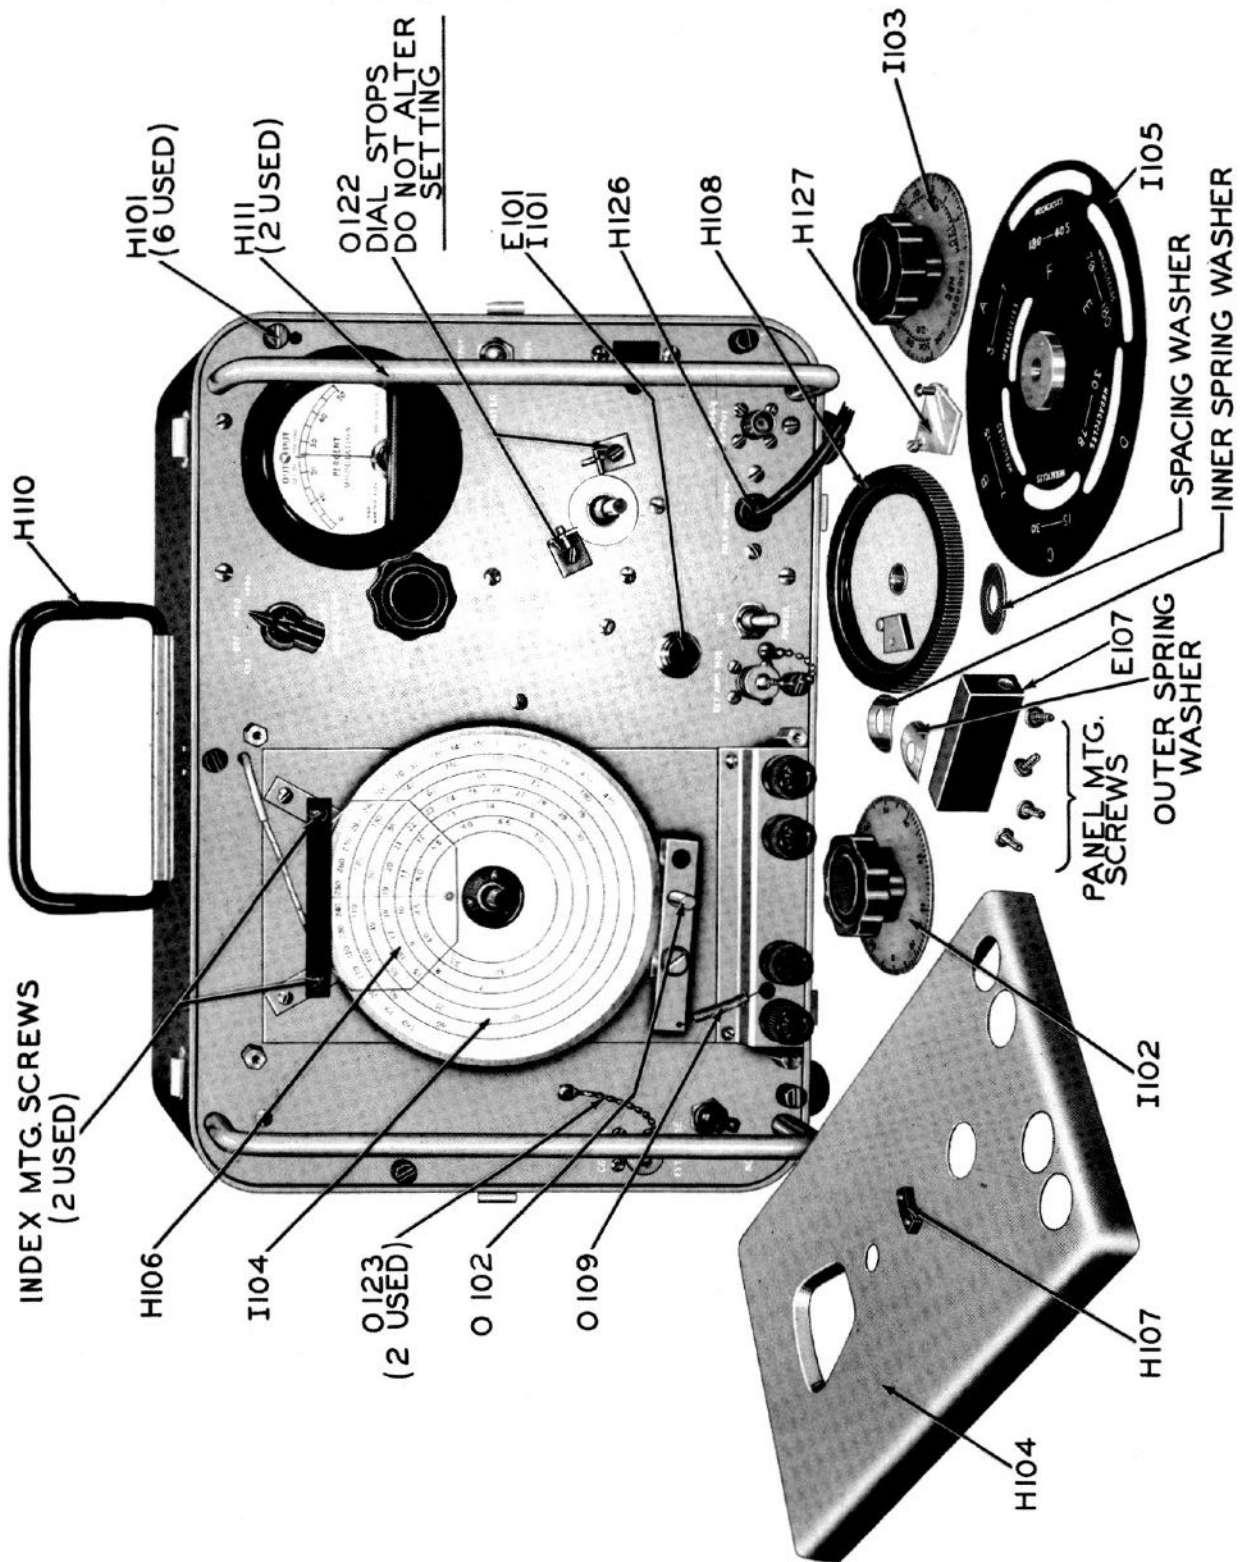

Figure 7-9. RF Signal Generator SG-45A/URM-26, Partial Disassembly, Front Panel
(1) Loosen the two #10 Allen set screws which secure tuning dial I-102 and remove dial from shaft.
(2) Loosen the two #10 Allen set screws which secure RANGE knob E-107 and remove knob.
(3) Remove four screws holding dial cover H-104, see figure 7-9, and remove cover.
(4) Remove Dial Mask I-105. This mask is secured to shaft by two #4 Allen set screws.